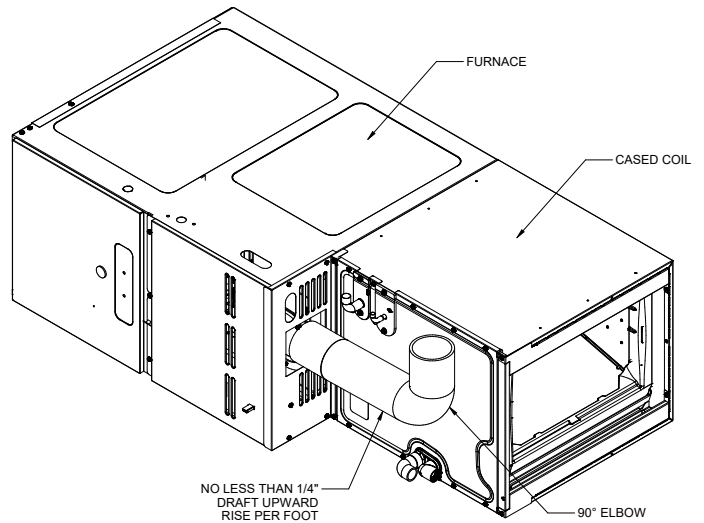

**Figure 4**
The leak detection sensor must be wired directly to the furnace. Follow routing diagram as shown in Figures 4 or 5 depending on orientation of install. This wiring is intended to be passed through the access hole on the furnace. If a hole must be cut into the furnace, ensure that the wiring is well protected from mechanical damage and that the hole is free from burrs or sharp edges. Utilize a protective coating for all exposed metallic edges to prevent corrosion. Verify that the A2L function (this is required for R32 integration) is enabled on the furnace board PCB. Refer to the furnace IO for further instruction on how to toggle this function from disabled to enabled. The A2L verification step as described on the furnace IO must be completed before the unit is commissioned. If the test is not successful, call 1-855-DAIKIN1, option 3, for further assistance.
- Please use Z-Bracket provided with units to fill the transition gap between furnace & coil when coil is one size larger than furnace. Additional gaps must be filled with insulated tape or putty to prevent air leakage. Figure 4 indicates incorrect coil/furnace attachment method.